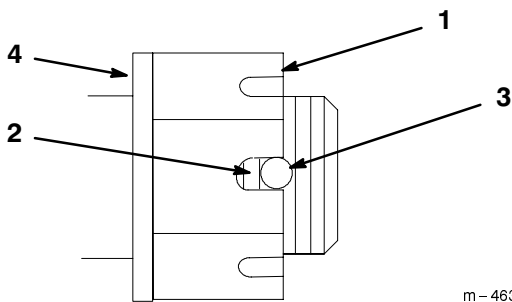

Figure 49
3. Torque slotted nut to 125 ft-lbs (169.5 N•m) (Fig. 49).
4. Check the distance from bottom of slot in nut to inside edge of hole. Two threads or less should be showing (Fig. 49).
5. If more than two threads are showing remove nut and install washer between hub and nut (Fig. 49).
6. Torque the slotted nut to 125 ft-lbs (169.5 N•m) (Fig. 49).
7. Tighten nut until the next set of slots line up with the hole in the shaft (Fig. 49).